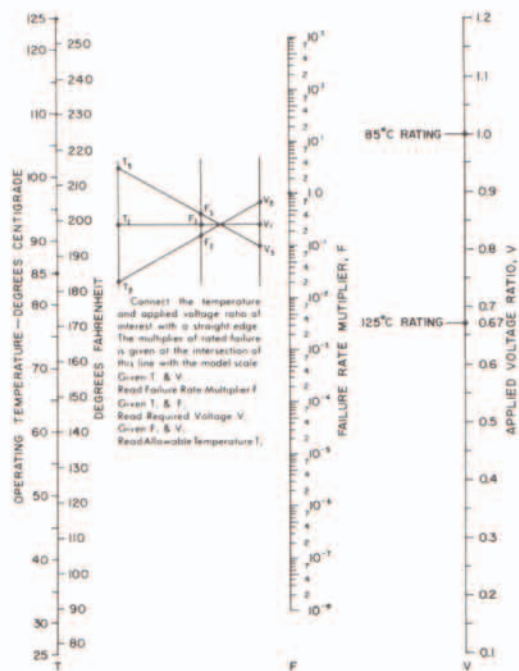

FIG. 5 RELIABILITY ALIGNMENT CHART
Expected reliability factors for voltages and temperatures other than the rated conditions may be found in Figure 5. Since T220 Series capacitors are supplied with a predetermined failure rate under rated conditions, reliability under use conditions may be estimated with this nomograph.
**Circuit Impedance** — Failure rates are affected by temperature and voltage as described in Figure 5 and also by the circuit impedance seen by the capacitor. Traditionally, application advice for solid tantalum capacitors suggested an impedance of 3 ohms or higher per applied volt. This advice was later found to be unnecessarily conservative, and the factors in Table II, are based on 0.1 ohm per volt as the unity failure rate multiplier.